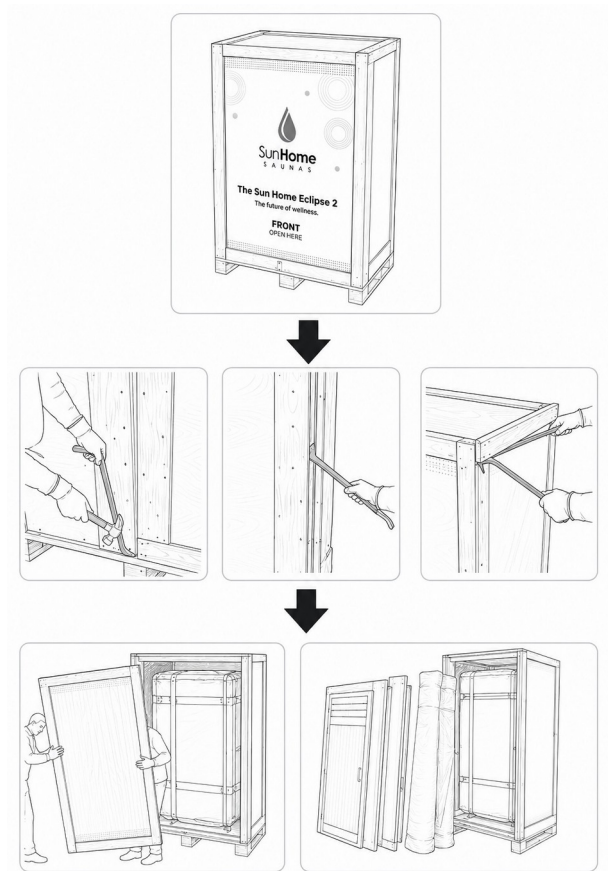

Figure 3. Uncrating: the crate front is pried open at the bottom, the sides, and then the top, and the contents are held upright while the front is removed.
- Using the crowbar and hammer, pry the crate front open: bottom first, then sides, then top (Figure 3).